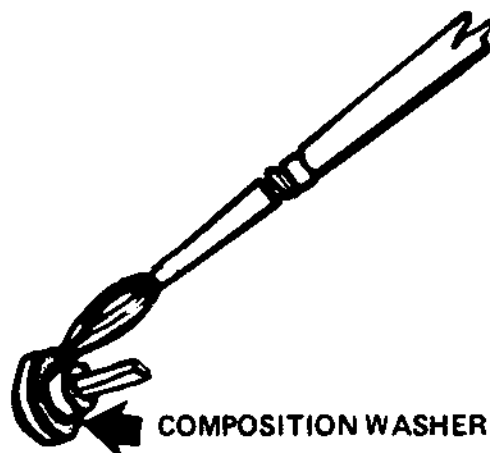

Figure 9.1-3. Applying DC-5 Compound to Switch Shaft Washer with Brush
| Figure 9.1-3 | Applying DC-5 Compound to SwitchShaft Washer with Brush | 9.1-10 |
3. Apply a light coating of DC-5 compound with a brush to the switch shaft composition washer as shown in figure 9.1-3. If the black composition washer is damaged or lost, use a film of DC-5 as a replacement.